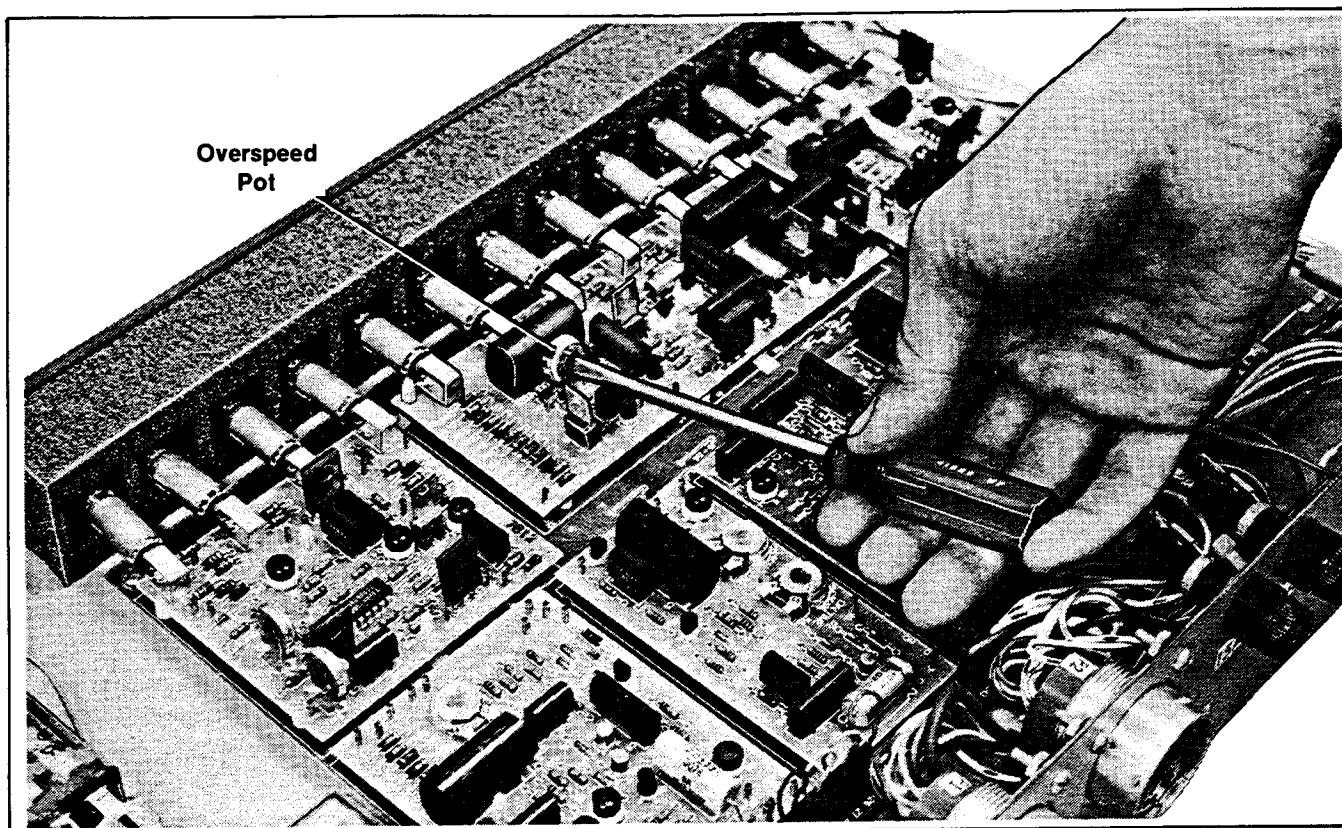

Figure 3-5. Adjusting Overspeed Pot
- If not, turn OVERSPEED pot on lamp driver board clockwise until OVERSPEED lamp on controller lights along with ALARM and A.D. on Fast Check (showing shut-down). See Figure 3-5.